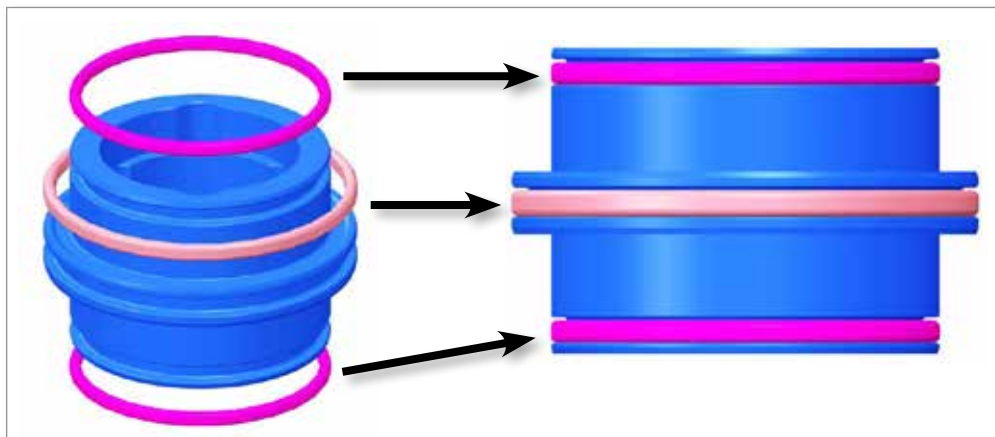
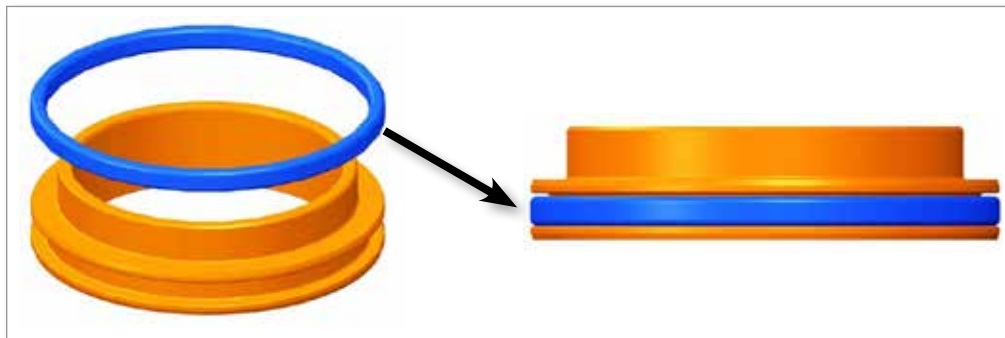

Figure 11-3 Install piston top O-rings
Figure 11-4 Install piston bottom O-ring
2. As shown in the General Assembly drawing, install the O-rings into the grooves on the piston top and the piston bottom. Carefully push the O-rings into the grooves using your finger. Ensure the O-rings are firmly seated in the groove. See Figure 11-3 and Figure 11-4.